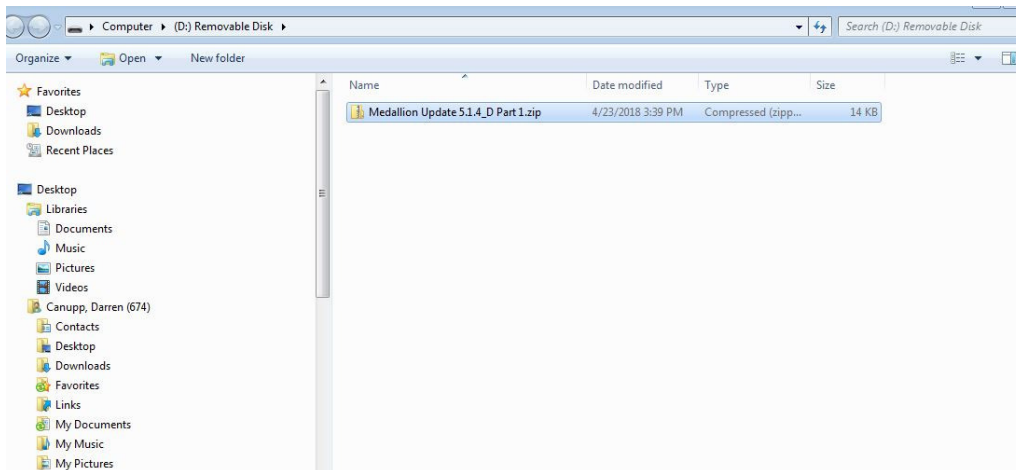

Fig. 6, Downloaded Zip File is on Flash drive (D:) In this example.
6. When the download is complete, select "Open Folder" at the bottom of the screen and verify that it was downloaded to the flash drive. See Fig. 6. In this example, "Medallion Update to 5.1.4_D Part 1" was downloaded on the flash drive marked in drive D: on the laptop.